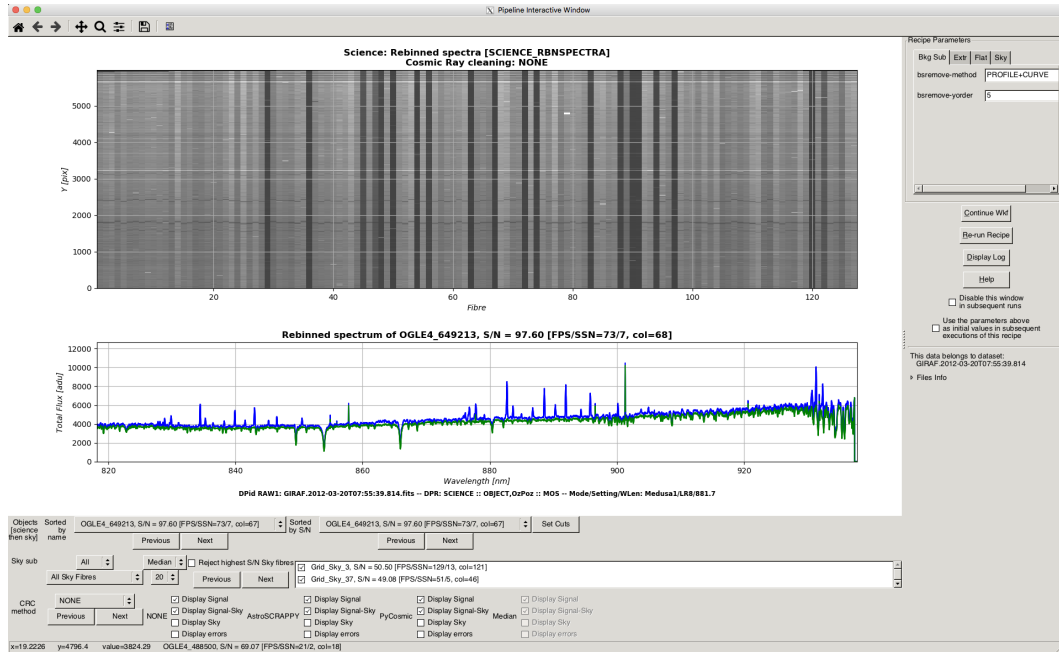

Figure 3.9: The Science Interactive GUI for the first dataset. The blue lines are the ‘Signal’, the green lines are the ‘Signal-Sky’.
- The workflow will now proceed to the Science actor and after running the recipe open the Science interactive GUI, see figure 3.9.